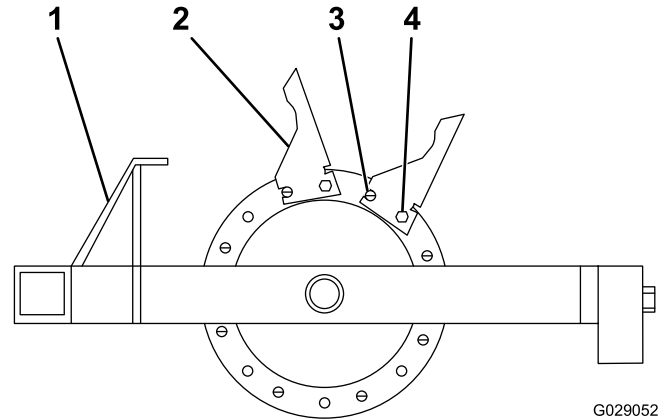

Figure 20
1. Start at the outside casting and install the tines as shown in Figure 20.
2. Install all 8 tines on the casting, using a roll pin and bolts (1/2 inch x 1-3/4 inches) and ensuring that the roll pin is in the front position (Figure 20).